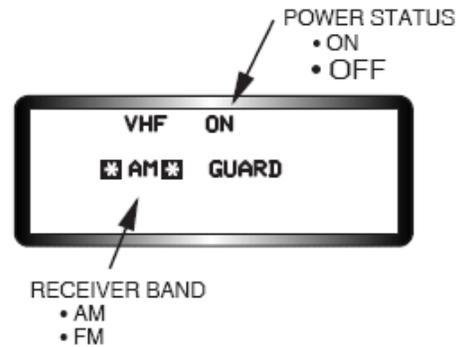

Figure 1-48 Dedicated VHF Guard Page
- The COMM 2 GD switch automatically tunes the VHF receiver and transmitter to the VHF guard frequency (121.5 MHz) and causes a dedicated VHF GUARD DED page to be displayed (Figure 1-48). The asterisks default around the receiver band portion of the VHF GUARD DED page. Depressing any ICP key 1 through 9 rotates the band selection between the AM and FM bands (Not Implemented).